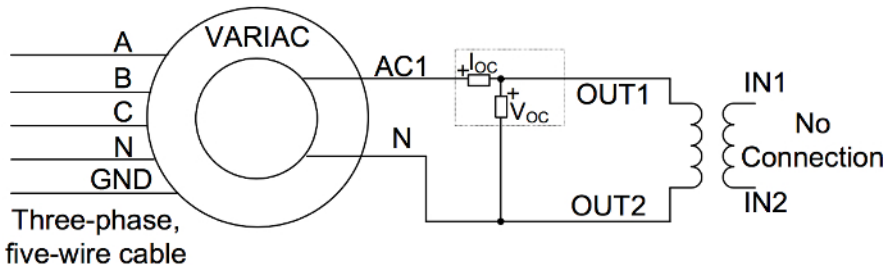

Figure 1: DC test schematic. Please click here to view a larger version of this figure.
2. Connect the circuit for the open-circuit test (Fig. 1). Use a digital power meter.
4. Double-check that the circuit connections are as expected from Fig. 1, and then turn on the three-phase source.